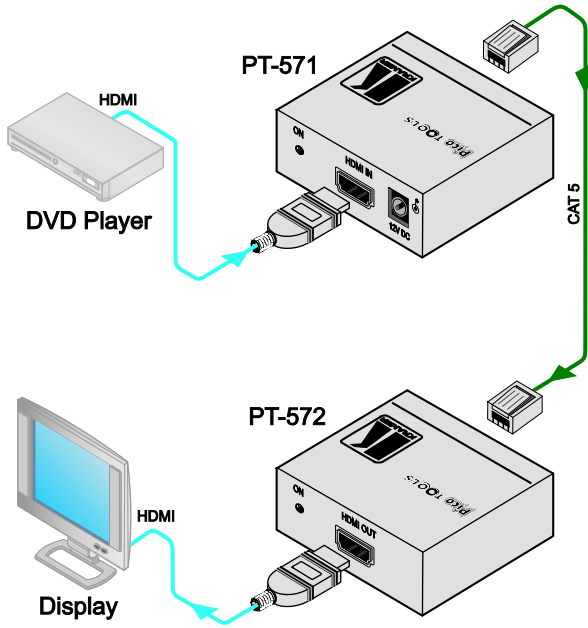

Figure 3: Connecting the PT-571/PT-572 HDMI Line Transmitter/Receiver
To connect the **PT-571** to the **PT-572**, as illustrated in the example in Figure 3, do the following:
4. Connect the 12V DC power adapter to the power socket on the **PT-571** and connect the adapter to the mains electricity (not shown in Figure 3).